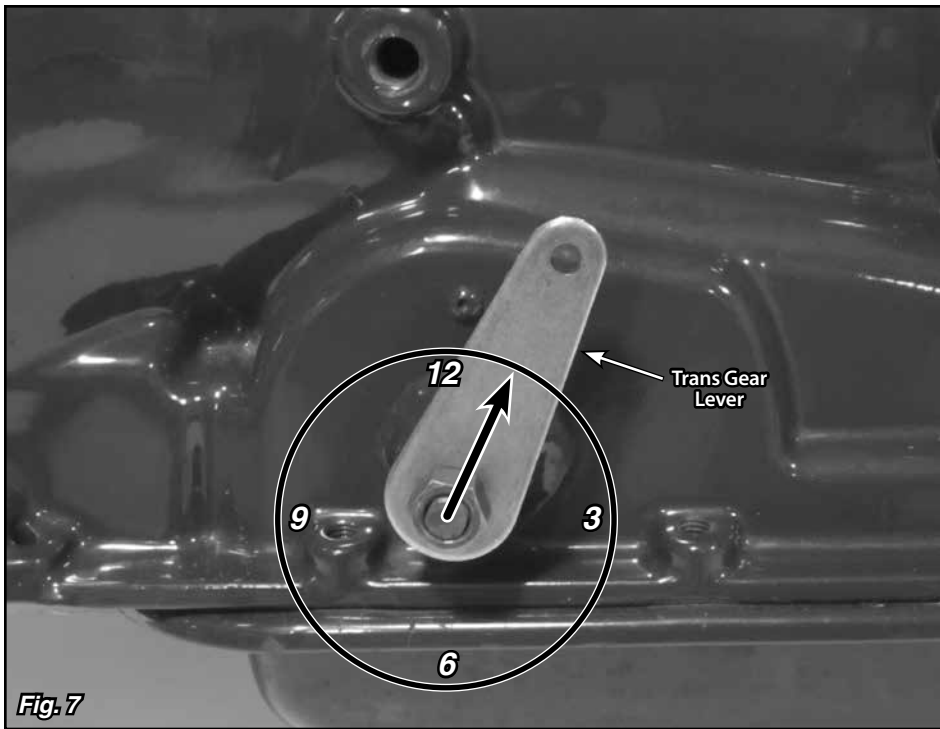

Fig. 7
**Step 12:** Install the trans gear lever onto the transmission and secure with your original nut. Place the trans gear lever in the Park position with the top of the lever pointing up and slightly towards the rear of the transmission, at about the 1:00 position. **Fig. 7**